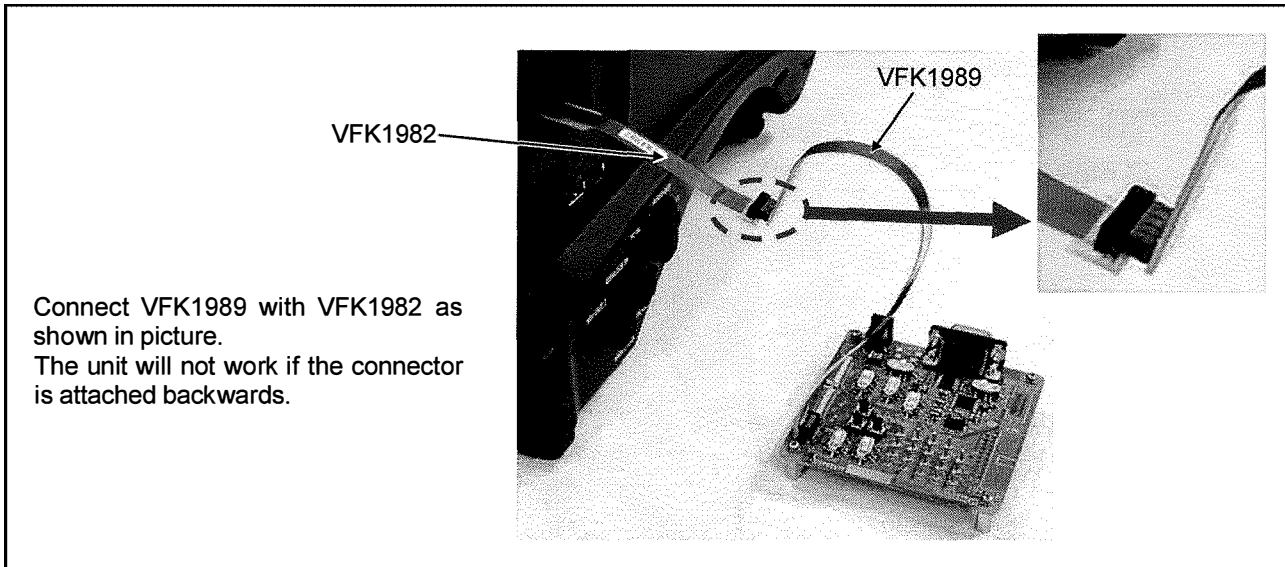

Figure 6-2-5
5. Connect the VFK1989 (Extension Cable) to VFK1982 (Extension Cable) as shown in figure 6-2-5.